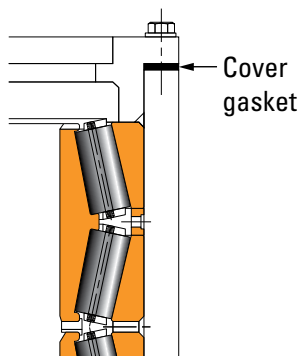

Fig. 242. Chock and cover gasket.
Axially clamp the outer bearing rings to prevent outer ring rotation in the chock. This happens by selecting either a compressible gasket made from a material such as cork, a solid shim pack, or peelable shims between the end cover flange and chock face (fig. 242).
2. Make four notches at 90 degrees to be able to re-measure the initial gap after installation (fig. 242).